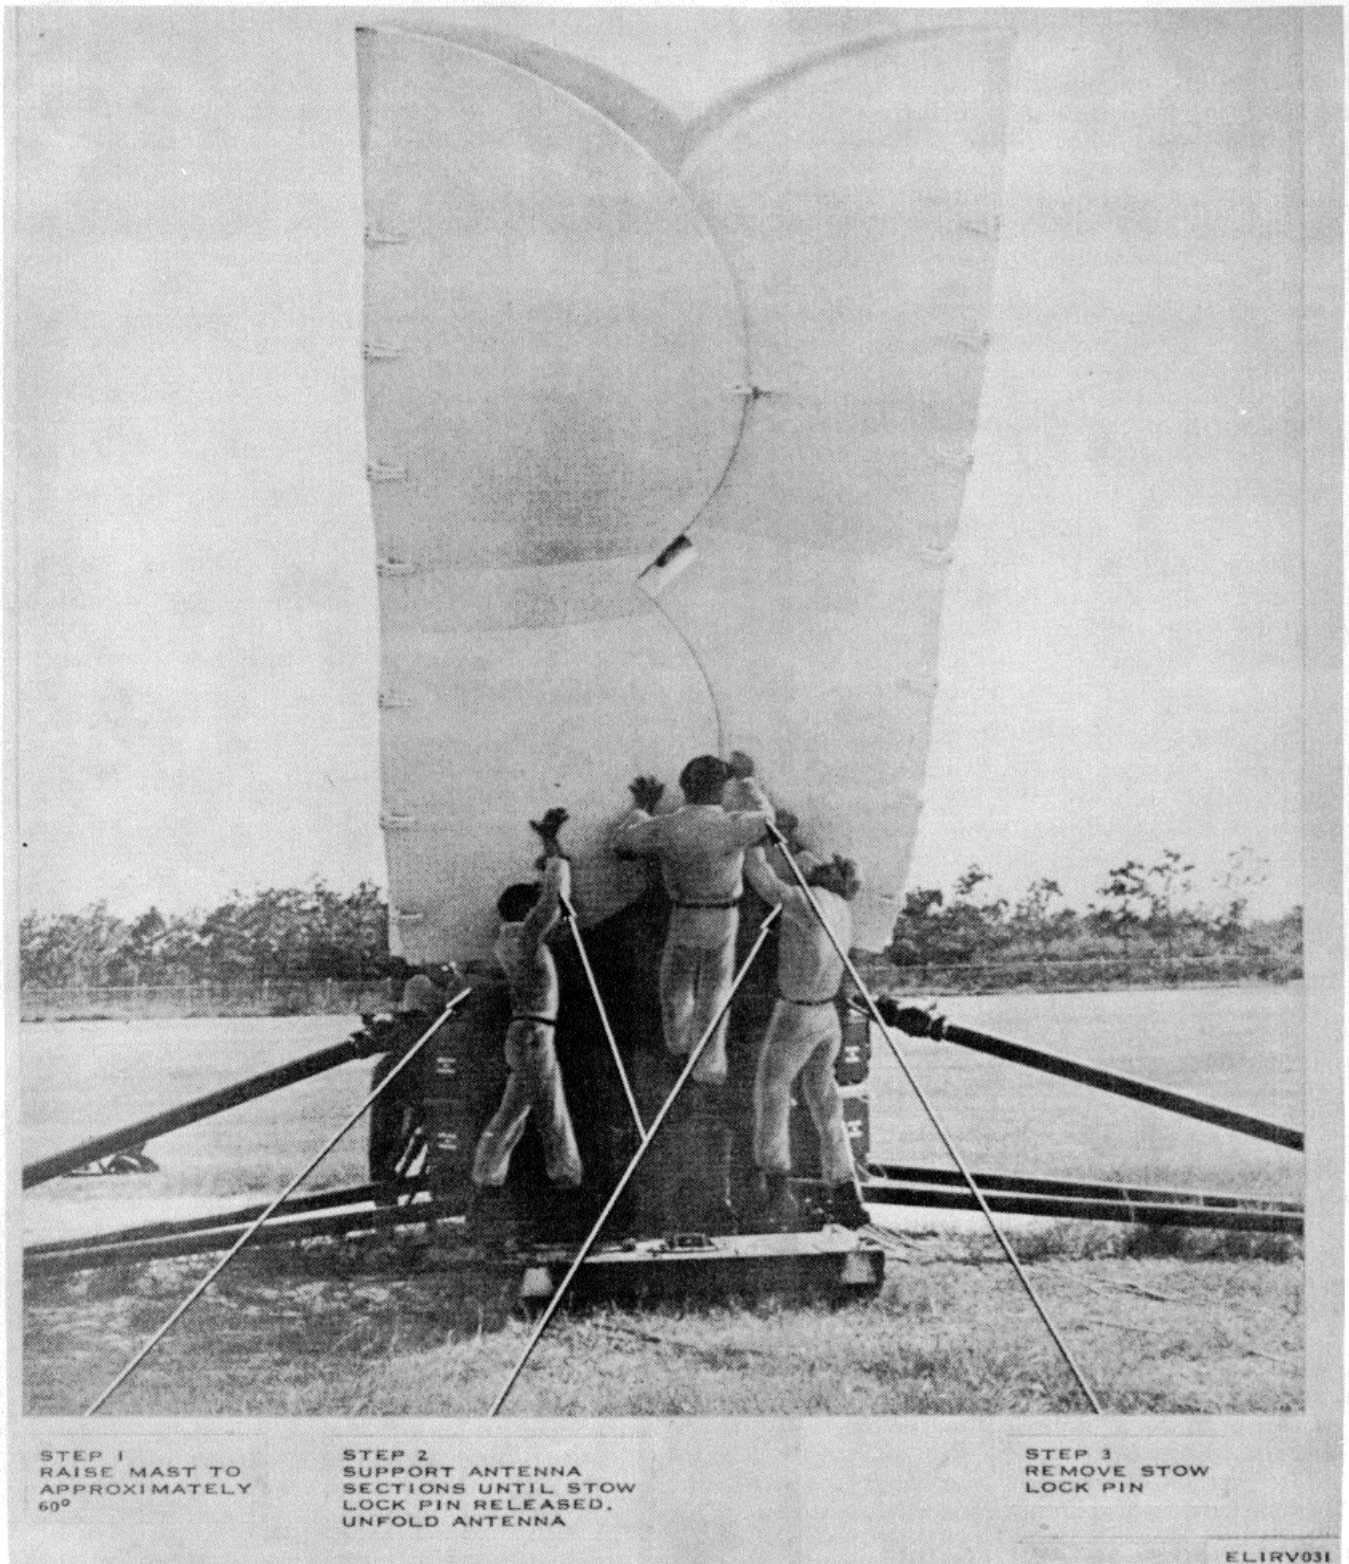

Figure 2-17. Antenna reflector unfolding.
i. Detail one man to each side of the antenna dish to hold the dish sections. Detail another man to remove the lower stowlock pin from the antenna as shown in figure 2-17.